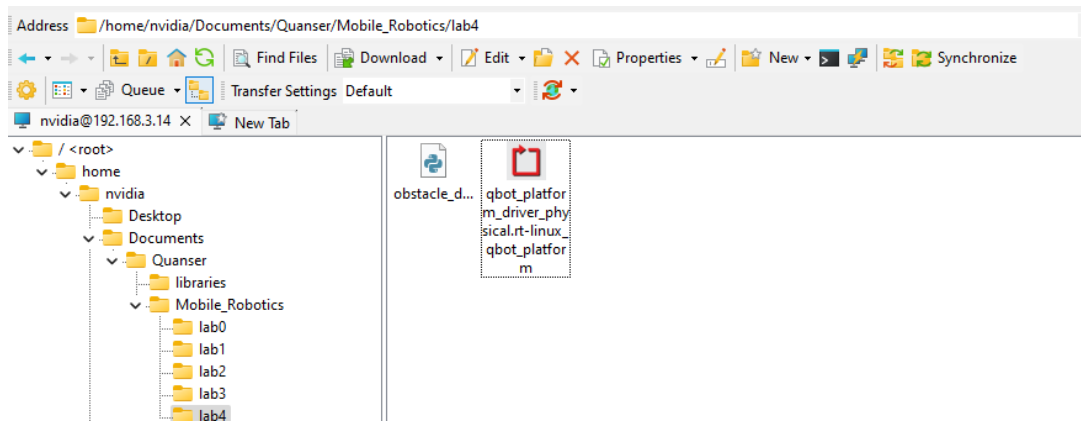

Figure 3. Correct directory for python script
- a. navigate to "`~\Documents\Quanser\Mobile_Robotics`" and create a new folder "`Lab4`", as shown in Figure 3. Then copy the updated obstacle_detection.py to "`Lab4`". In addition, copy the qbot_platform_driver_physical.rt-linux_qbot_platform over. (You can just drag the files over).